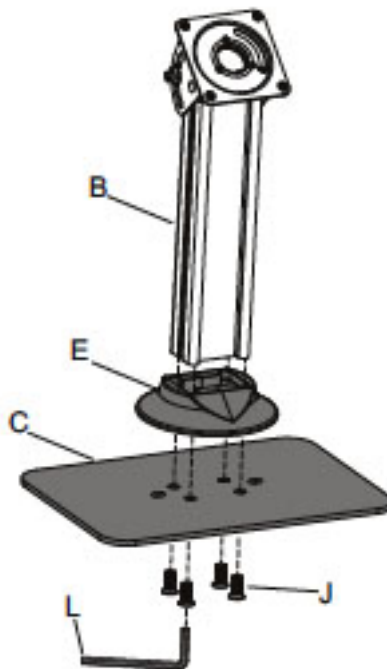

Figure 2
1. Install the **Decorative Cover (E)** and **Support Pole (B)** to the **Weighted Base (C)**, secure them using **M8x20 Bolt (J)**, tighten each bolt with **Allen Key (L)** by turning it clockwise until fully tight, see **Figure 2**.